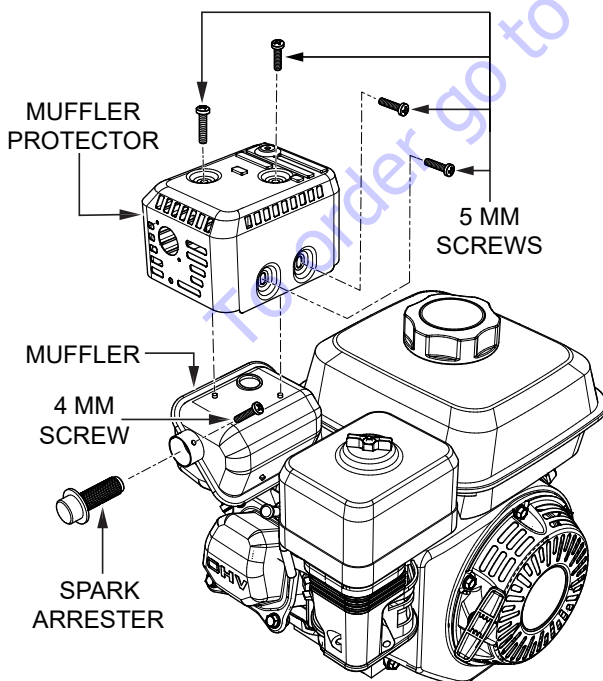

Figure 61. Spark Arrester Removal
1. Remove and retain the four 5 mm screws securing the muffler protector to the muffler (Figure 61). Remove the muffler protector and set it aside.
2. Remove and retain the 4 mm screw securing the spark arrester to the muffler, and remove the spark arrester (Figure 61).